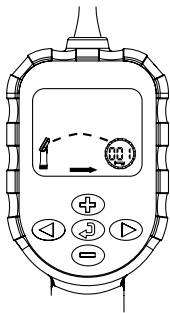

Figure 1
2. Use the (+) and (-) buttons to change the 3-digit identification number. Use the (→) button to make sure that the WVP is in the transmit mode with the arrow on the display pointing towards the address icon (000) (see figure 1).